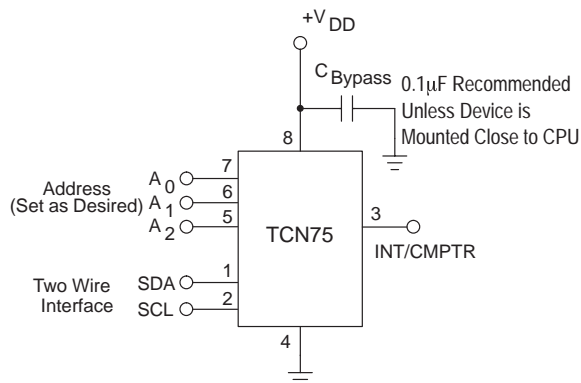

Figure 1. Typical Application
**ELECTRICAL CHARACTERISTICS** (Specifications Measured Over Operating Temperature Range,  $V^+ = 5V$ ,  $C_{OSC} = 0$ , Test Circuit (Figure 1), unless otherwise noted.)
A typical LM75 hardware connection is shown in Figure 1.